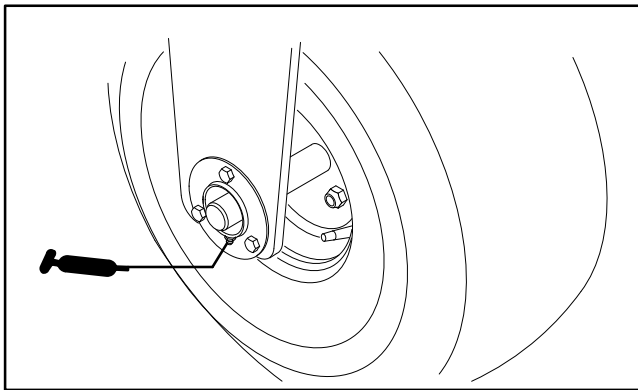
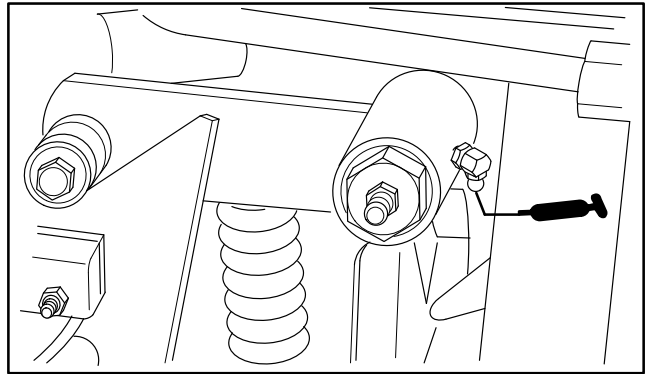
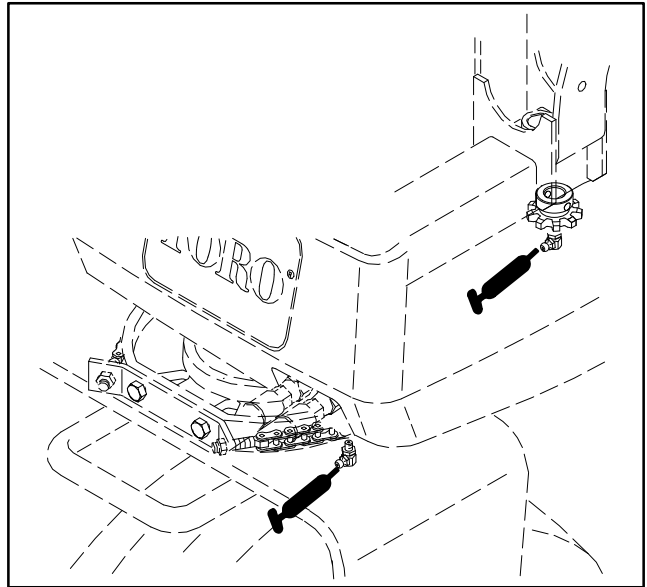

Figure 14
Figure 15
Figure 16
The bearings and bushings that must be lubricated are: front wheel bearing (Fig. 14), traction control linkage (Fig. 15) steering shaft (2) (Fig. 16) and steering chain sprocket shaft (Fig.16).
Note: To gain access to grease fitting on traction control linkage (Fig. 15), remove (3) screws securing side panel to right side of machine and remove panel.